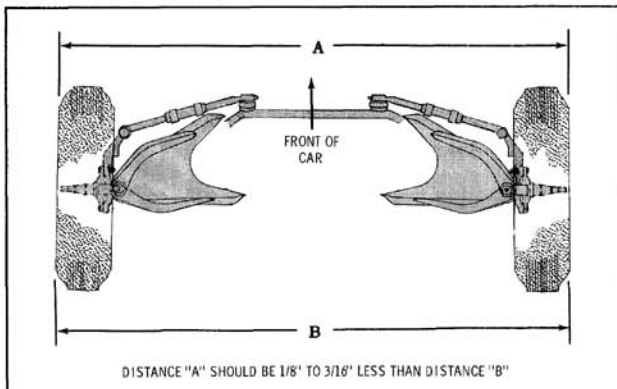

Fig. 9-138 Front Wheel Toe-In
3. TOE-IN (Fig. 9-138)
**TOE-IN ADJUSTMENT (Fig. 9-138)**
2. With steering wheel set in straight ahead position, turn tie rod adjusting sleeves to obtain the proper toe-in adjustment at curb load. (Fig. 9-138)